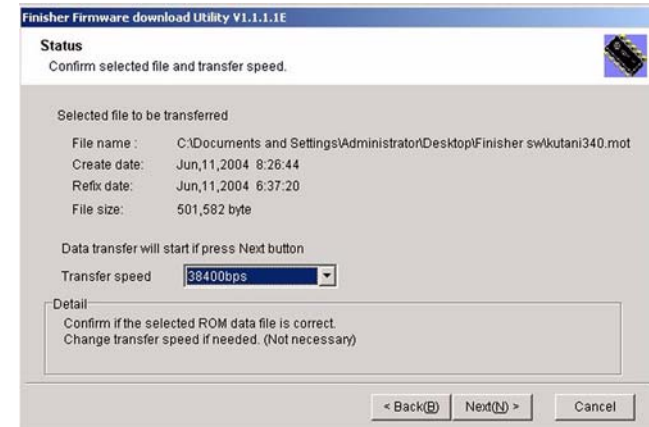

Figure 5 Verify selection
- e. In the Status window (Figure 5), verify that the selected file is correct and then click **Next**.